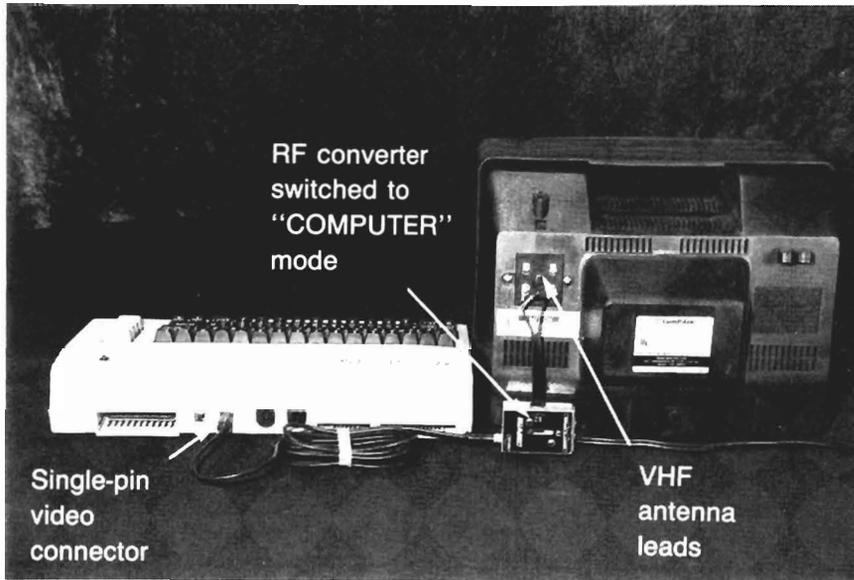

Fig. 3-2. RF converter attached to television.
**The Television Set Monitor.** The Commodore 64 and 128, like many other home computers, are designed to use a television set as the monitor. An external radio frequency (RF) converter is attached to the television via the television's VHF antenna leads (Fig. 3-2). If your television is cable-ready, you can use a coaxial cable connector instead of the antenna leads.
When using a television as your monitor, a round single-pin cable is used together with an RF converter to create the monitor interface. One end of this cable connects into the Commodore system unit, and the other end connects to the RF converter, which in turn connects to the VHF antenna terminals on the back of the television (see Fig. 3-2). The RF converter takes the computer's digital signals and converts them into the analog signals required by the television. In effect, the computer is functioning as a transmitting station to the television. When using a computer monitor instead of a television, the round five-pin RGB cable supplied with the monitor is the monitor interface.